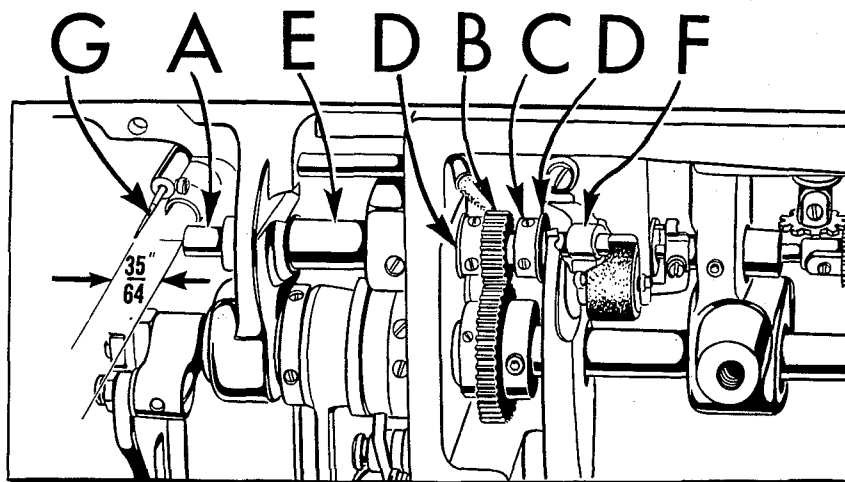

Fig. 19
The hook shaft (A, Fig. 19) is held in position by the pinion (B) and collar (C) thrusting against hard steel washers (D) between the long left hand bushing (E) and the short right hand bushing (F).
Before re-assembly, the end of the hook shaft, its spiral groove and the pump disc should be thoroughly cleaned. Remove any end play found in hook shaft and determine that the 35/64 inch dimension has been maintained (Fig. 19).